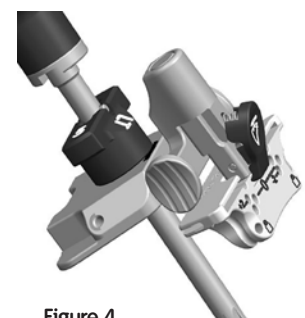

Figure 4
4. Attach the Distal Femoral Cutting block onto the Bridge. Positioning the block and the dial on the adjustable bridge at the primary (“0”) resection level will ensure the cut will equal the distal thickness of the femoral prosthesis (Figure 4).